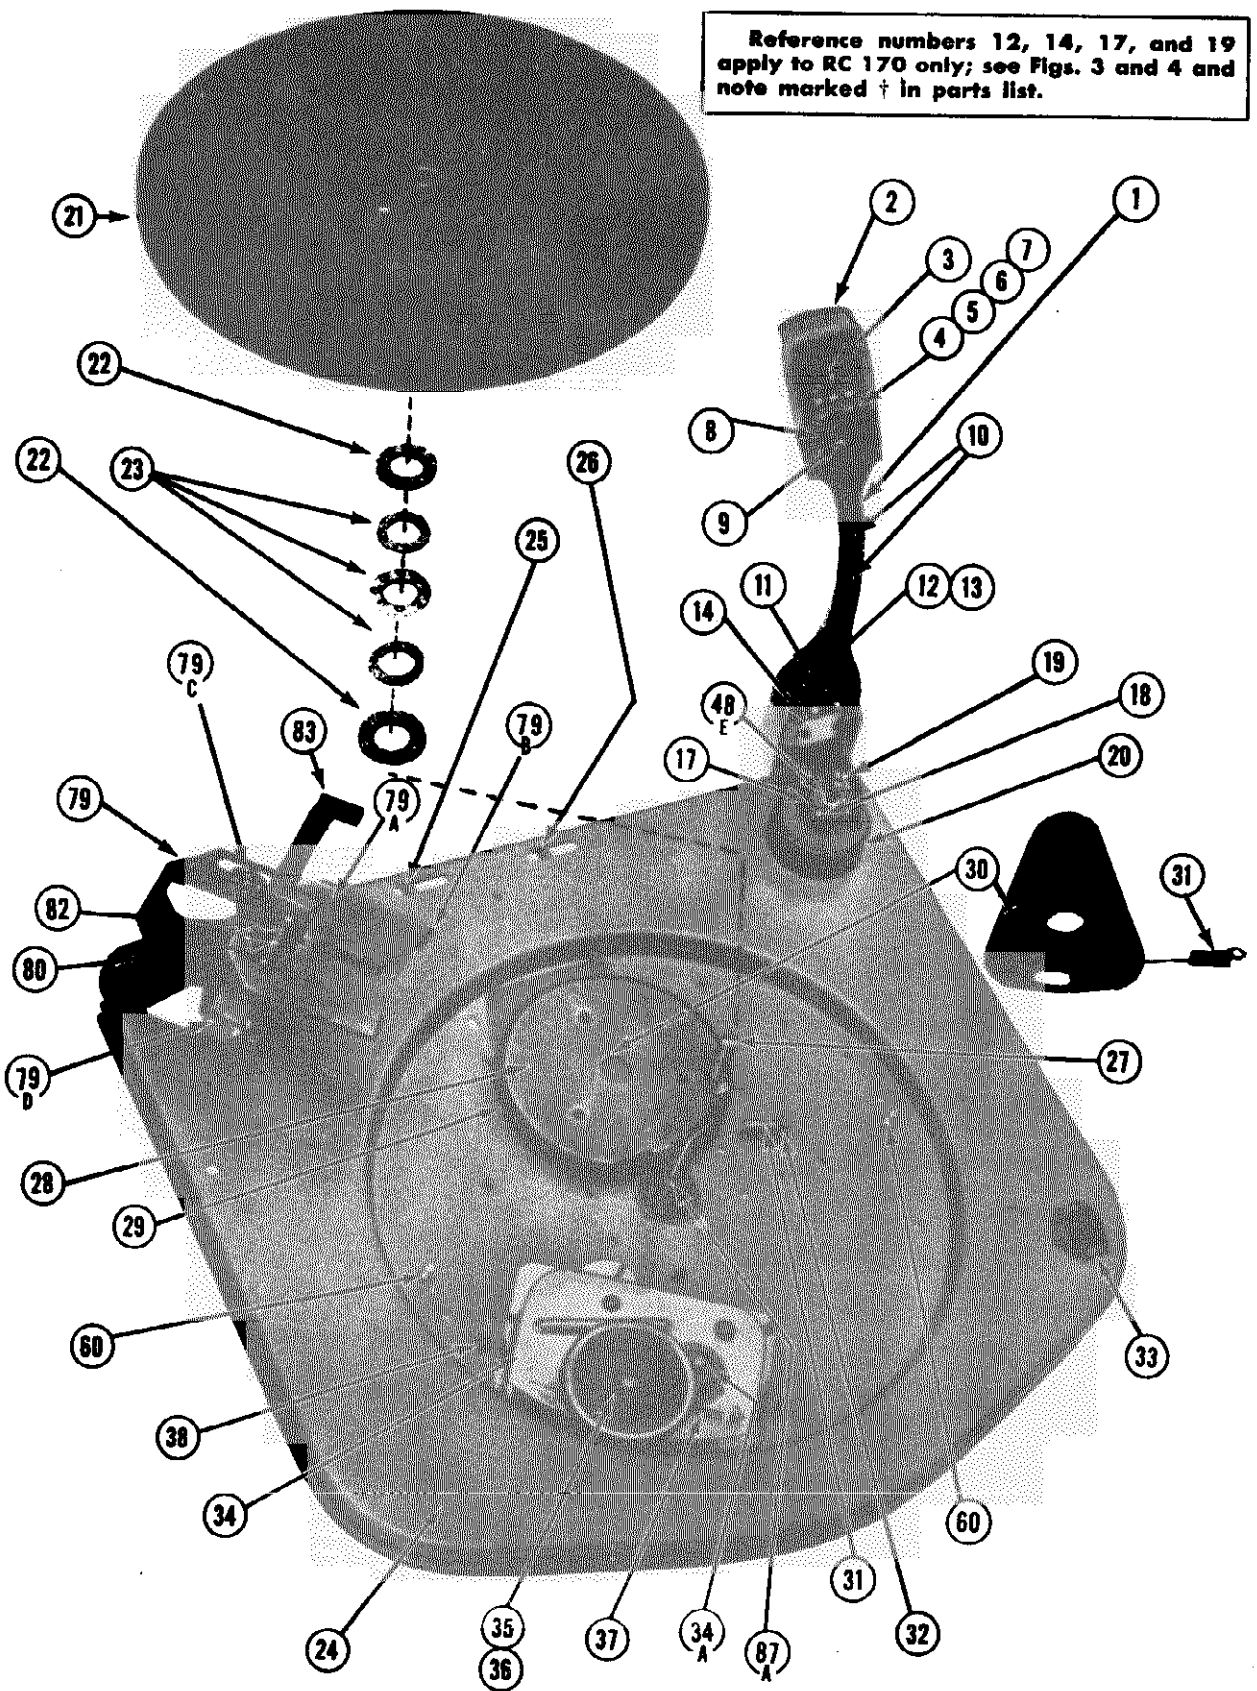

Figure 8. Top View of Record Changer
The changer operates as follows: The changer mechanism is driven during its change cycle by the knurled hub of the turntable rotating the rubber-tired drive wheel (28). During normal playing, the drive wheel is held in a neutral position as illustrated in Fig. 8 so that the indentation prevents the tire from contacting the knurled hub. The drive wheel (28) is held in this position by the trip lever (63) and the stop stud (65) on the main cam (66).
When a record has finished playing and the needle has reached the trip point, the arm control lever roller (48C, Fig. 7) makes contact with reject link (43A), moving the trip arm (43) which releases trip lever (63). The trip lever spring (62) moves trip lever (63) freeing cam stop stud (65) and allows spring (69) to pull the main cam clockwise (bottom view). Since the main cam (66) and the drive wheel (28, Fig. 8) are on the same shaft, the drive wheel is thus turned so its rubber tire is against the knurled hub of the turntable. The turntable now rotates the drive wheel (28) which in turn rotates the main cam (66). Roller (68), Fig. 7) riding on the main cam, moves arm control slide (52), and the raised portion (52A) of this slide raises arm lift shaft (This shaft is 19 on the RC170 and 103 on the RC170A.) which lifts pickup arm from the record. Stud (52C) moving with slide (52) pushes arm control lever (48A) causing the pickup arm to move to the right, clearing the record. The movement of roller (68) also causes trip lever (63) to re-engage in the recess of trip arm (43). Trip spring (61) holds the trip arm (43) and trip lever (63) together.
push-off plate 79A, Fig. 8. (Note that the record stack rests on plate 79A.) The shape of the main cam (66) is such that the push-off plate (79A) first moves back, allowing the bottom record to drop onto the record support plate (79B). Then the push-off plate (79A) slides forward and drops the next record to be played but only after the pickup arm has cleared the record stack. The little slide in the top end of the center post holds back all records other than the bottom one.
Adjust the 12-inch set-down with screw (25), Fig. 8. Turning screw (25) in (as seen through the left hand slot) moves the set-down point for 12-inch records further from the center post and turning the screw out moves it closer to the center post. The proper set-down point is between $5\frac{5}{8}$ " and $5\frac{11}{16}$ " from the needle to the near side of the center post.
The adjustment of the head assembly (79) is made by loosening the three screws, 85 (underneath the changer) and moving the assembly closer or further away from the center post as the case may be. The head assembly is in proper relationship to the center post when it is set with a dimension of $4\frac{7}{8}$ " from the front edge of the record support plate (79B, Fig. 8) to the rear of the center post (side nearest the record support plate) and at a point on the center post of the same height as the record support plate. This dimension is taken with the changer set to play 10-inch records.
The washers (22) and thrust bearing assembly (23) are removed by sliding them off of the centerpost. In replacing, have them in the order shown in Figure 8.
16. REMOVING BOTTOM COVER (100)